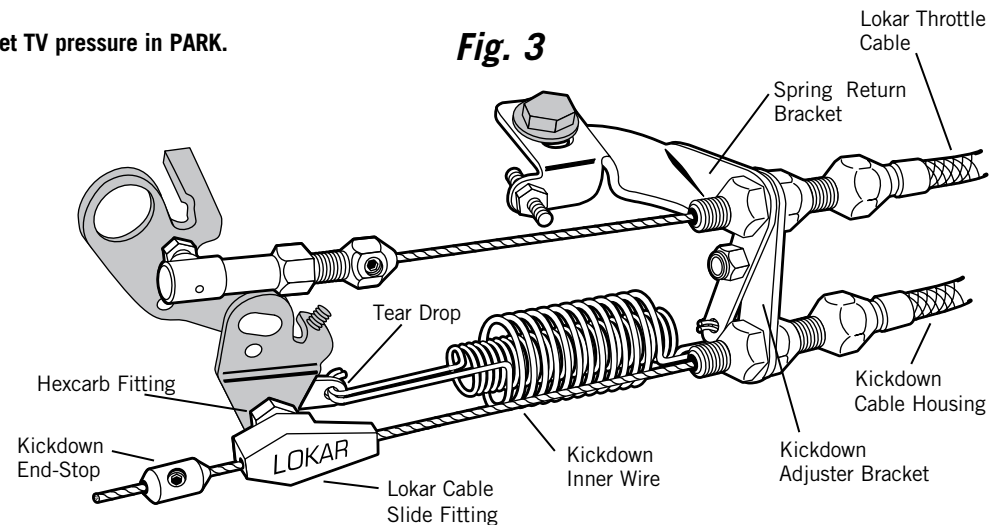

Fig. 3
Step 4: Install Lokar carburetor bracket and springs (Part # SRK-4000) onto driver's side rear stud of carburetor. Bolt kickdown adjuster bracket supplied with kickdown kit onto carburetor bracket using bolt and Nylock nut supplied with kickdown kit. (If not using Lokar Part # SRK-4000, mount parallel to valve cover to bottom hole on carb linkage). **Fig. 3**